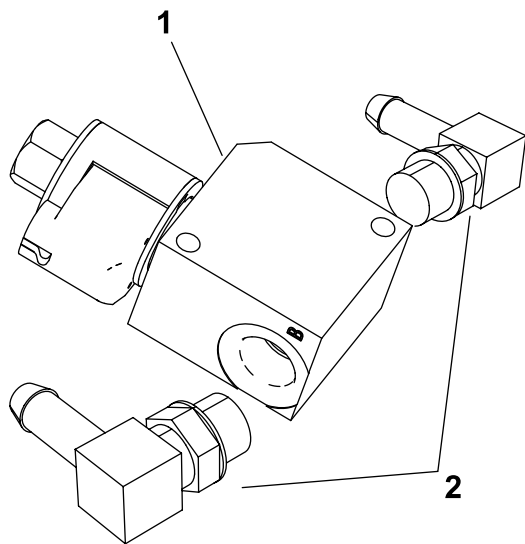

Figure 7
- Install 2 hydraulic fittings (90°) onto the front and back of the solenoid valve (Figure 7).